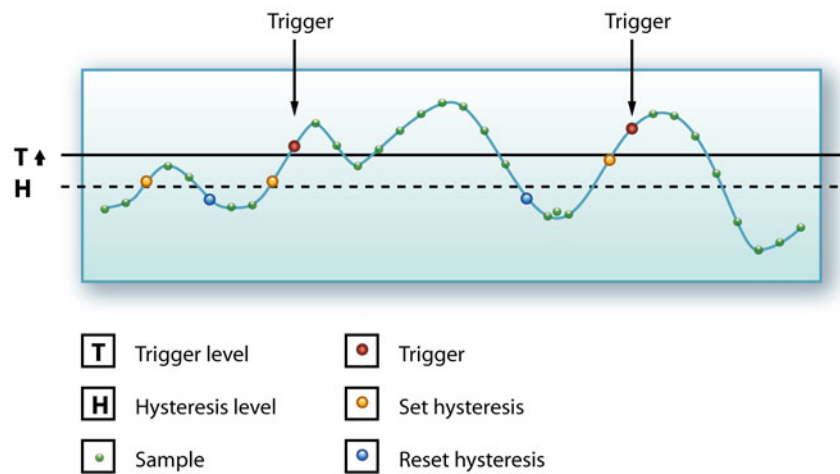

Figure 10.2: Trigger level hysteresis
Figure 10.2 shows the influence of the additional hysteresis. Fundamentally all is the same as described earlier. The only difference now is that a second level (H) is used to 'arm' the level trigger detector. Otherwise stated, the trigger level has been expanded to be a trigger zone that spans multiple levels.